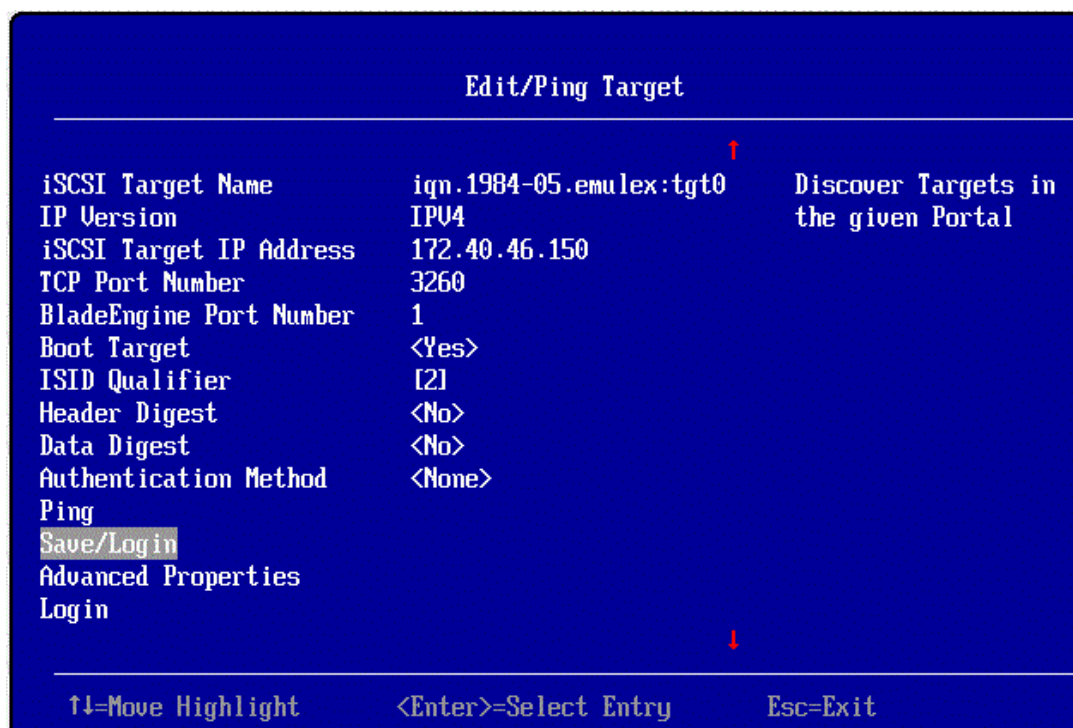

Figure 11-18 Edit/Ping Target Screen
- On the Edit/Ping Target screen (Figure 11-18), select **Advanced Properties** and press **<Enter>**. The Advanced iSCSI Target Information screen is displayed.
1. On the Edit/Ping Target screen (Figure 11-18), select **Login** or **Logout** to explicitly log in or log out of a target, and then press **<Enter>**.
1. On the Edit/Ping Target screen (Figure 11-18), select **Boot Target** and press **<Enter>**.
1. On the Edit/Ping Target screen (Figure 11-18), select **LUN Configuration** and press **<Enter>**. The LUN Configuration screen is displayed.